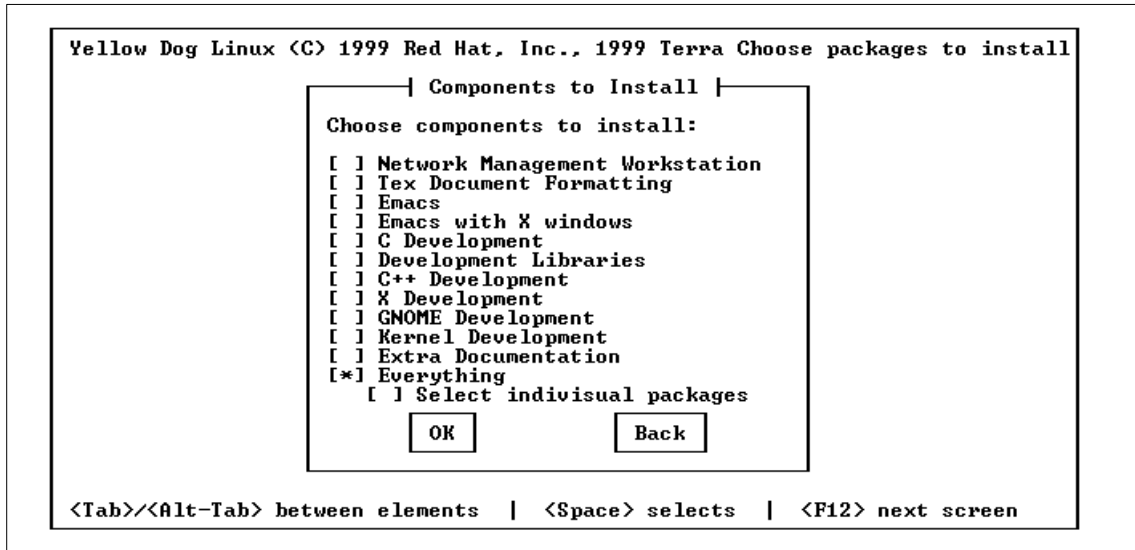

Figure 37. Selecting Packages
17. Before formatting your / partition, you can select the packages you want to install (see Figure 37 on page 170). We chose entire packages by selecting **Everything**, then the formatting and installation of packages started. It required about 10 minutes to complete this task. You can see the installation process on your display.